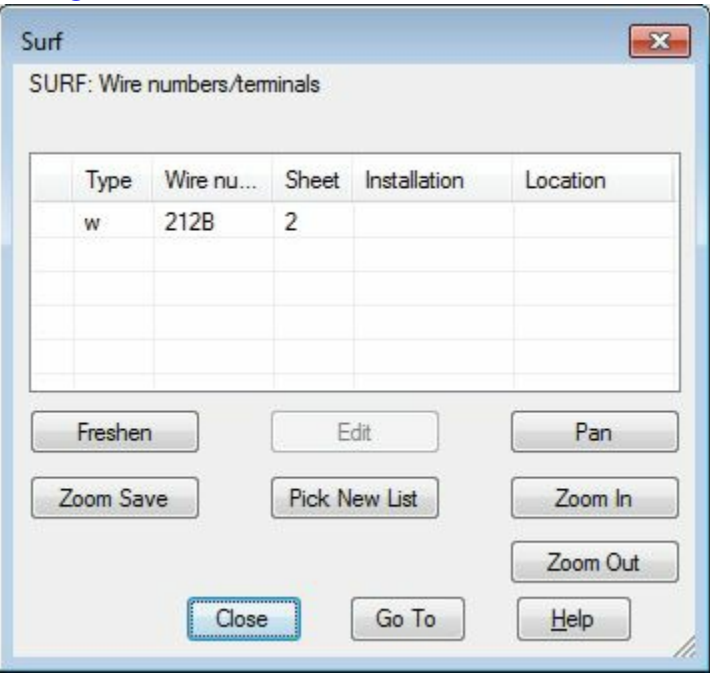

Figure-55. Surf dialog box
- Click on the **Surf** button from the shortcut menu. The **Surf** dialog box will be displayed; refer to Figure-55.